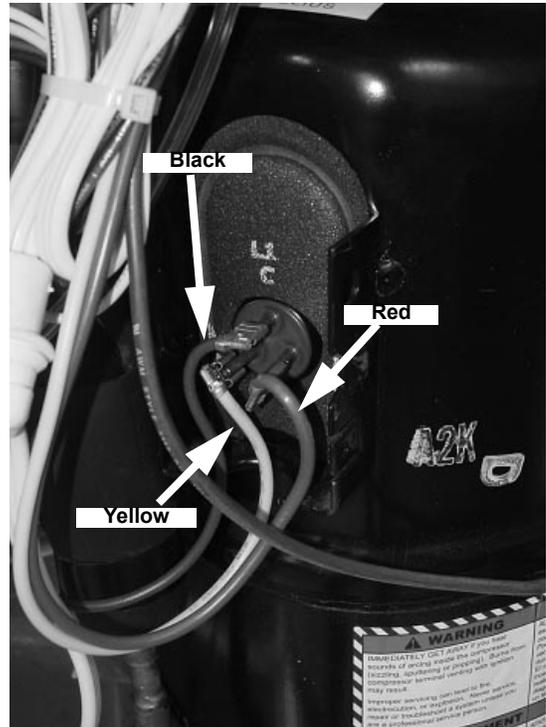

FIGURE 52
56. Connect the compressor (FIGURE 52) and replace the junction box cover.